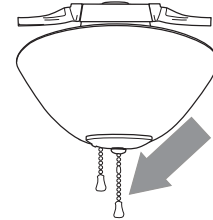

Fig. 2
2. Pull the light pull chain (located in the middle) to turn the light ON or OFF. [Fig. 2]